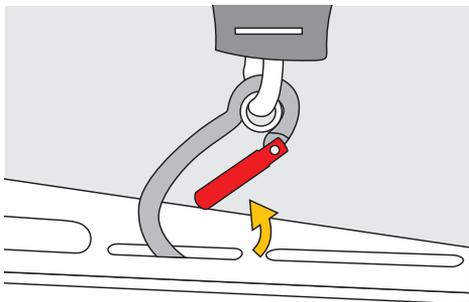
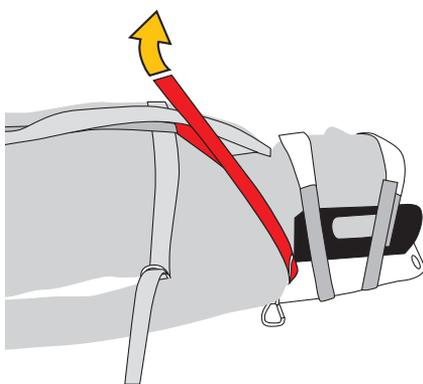

Fig.8
Fig.10
c) fasten the red straps (shoulders and torso) by hooking the connectors to the slots on the board, as shown in Figures 8 and 9, and tighten them slightly by using the buckles (Figures 10 and 11),